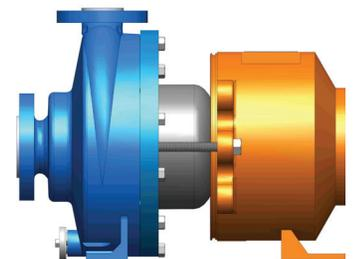

figure 6
4. Carefully slide the wet end towards the motor adapter until it touches the jack screws. There will be some magnetic attraction. *See figure 6.*
6. Bolt the wet end to the motor adapter by re-installing the (4) 1/2" hex head cap screws and torque evenly to 75 ft-lbs.